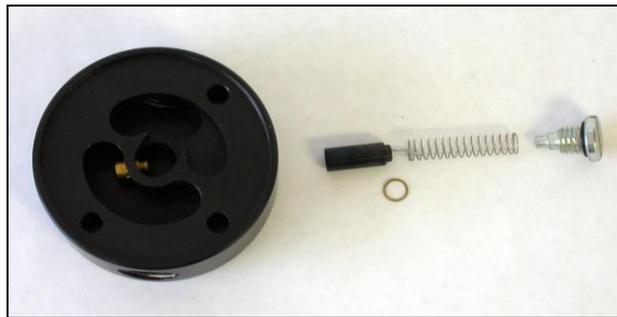

Figure 4
7. Remove spring and plunger assembly (**Figure 4**). (Note: There may be a small brass shim installed on the plunger where the spring seats. Make sure to save this as it will be reused.)